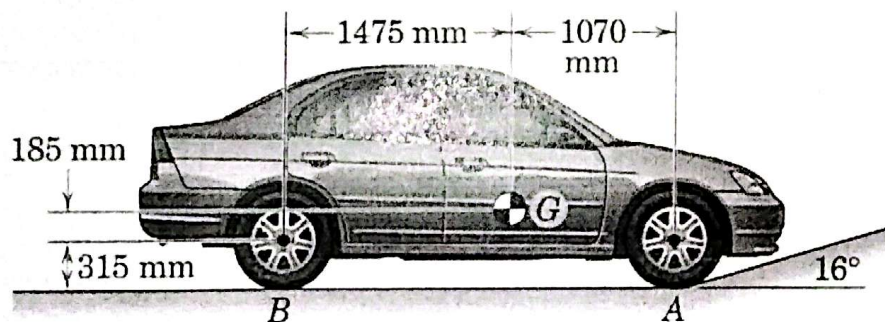

Figure 1. A 1600 kg about to drive the ramp
- Q1:** The car shown in the Figure 1 below is of 1600 kg. The car is rear-wheel drive [20 marks] and is just beginning to negotiate the 16° ramp. **Figure out** the minimum coefficient of static friction μ_s required at B.